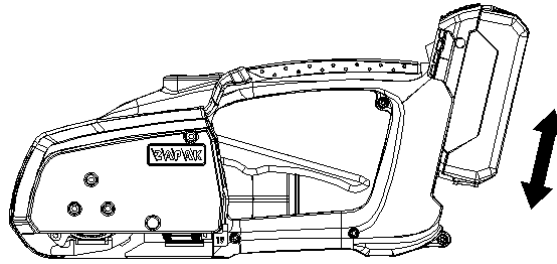

FIGURE 5. Illustration of Inserting and Removal of Battery
Insert a fully charged battery onto the tool as shown (FIGURE 5). Be sure the battery is pushed down and the release button is locked on. Press tension button the first time, all LEDs on control panel should be lighted up and all previous settings come up with “beep” sound simultaneously. These indicate that battery electricity system is ready to work under normal condition.
*** When the Battery Power LED on control panel shows “Red flashing”, it means the battery power is too low to work and needs to be re-charged.** Then the tool is NOT supposed to be operated under such condition. You will simultaneously hear “Beep..beep..beep” alarm. Please press “Battery Release Button “ on top of battery and pull battery upward to remove it from the tool. The “ beep..beep” alarm will continue until the battery is removed. (FIGURE 5)